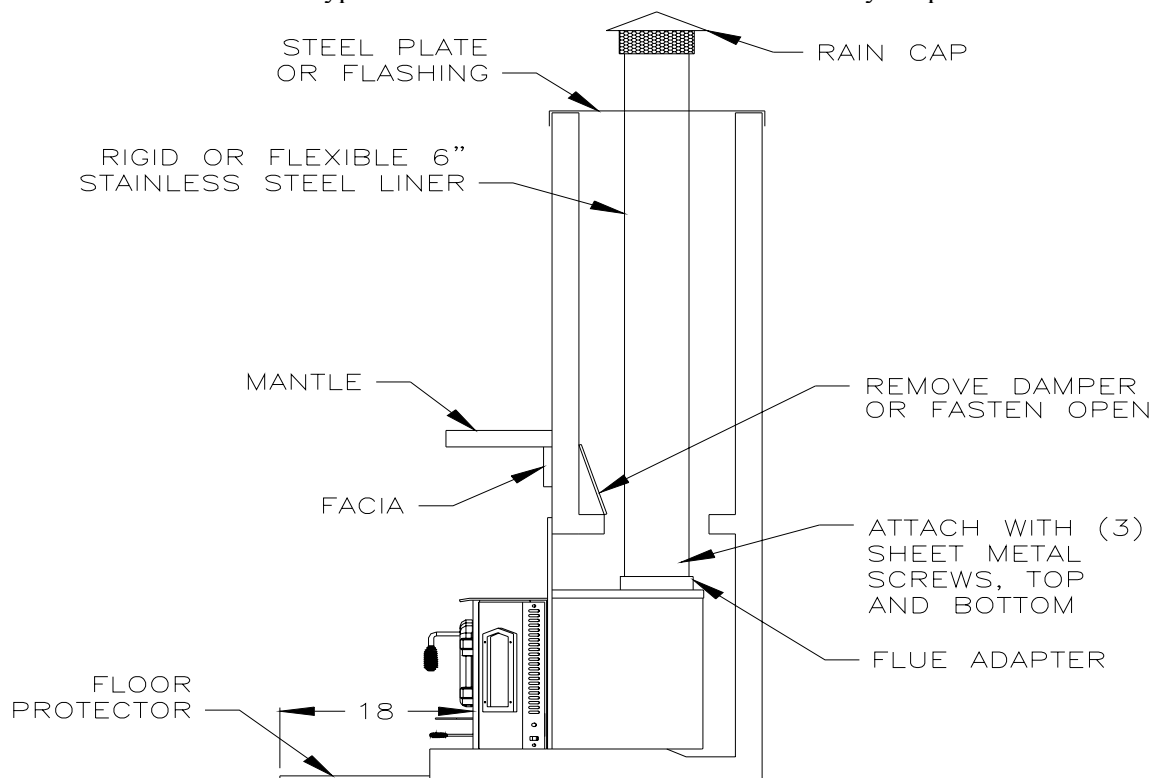

FIGURE 21: OV26-BF-I INSERT
5. FIGURE 21 shows a typical OV26-BF-I Insert installed in a masonry fireplace.
- Installation must include a full height listed chimney liner meeting type HT requirements (2100 degrees F) per UL 1777 (U.S.) or ULC S635 (Canada). The liner must be securely attached to the insert flue collar and chimney top as shown in FIGURE 21.